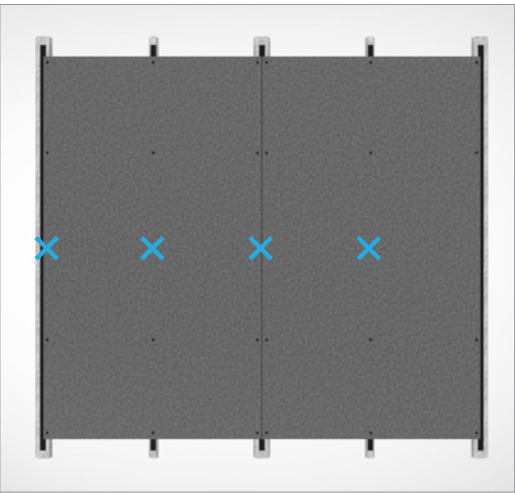

FIGURE 15.
- When installed in a vertical layout, the boards must have only two fixed points as close to the centre of the panel as possible. (see Figure 15 & 16)